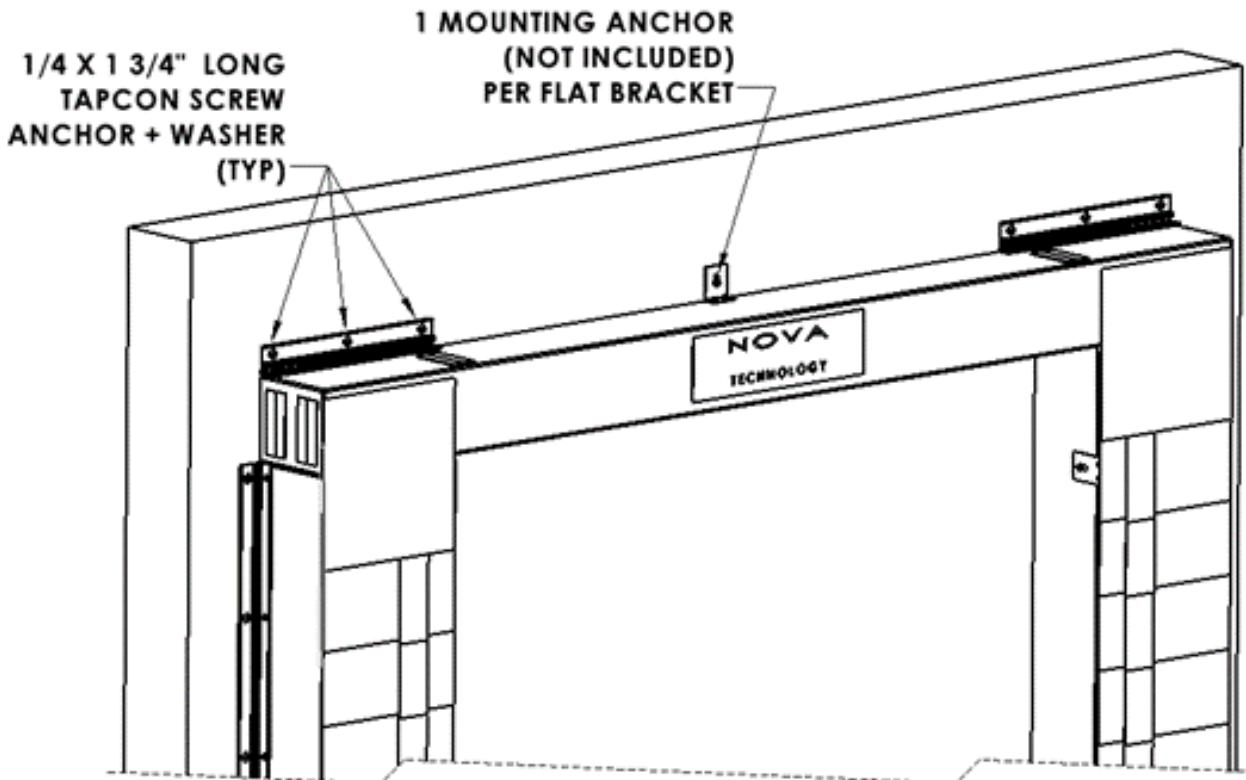

FIGURE 17
- b. Use a 1/2" or 3/8" diameter anchor that is at least 1 7/8" long (supplied by the contractor) to secure the (1) Angle Bracket (!) to the outside of the door opening—use 1 fastener (Figure 17).
- c. Use a 3/16" diameter masonry drill bit to drill 3 holes in the left-side Short Bracket w/Seal (B) and wall. Next, drill 3 holes into the right-side Short Bracket w/Seal (B) and wall. Fasten each anchor with washer as shown (Figure 17).